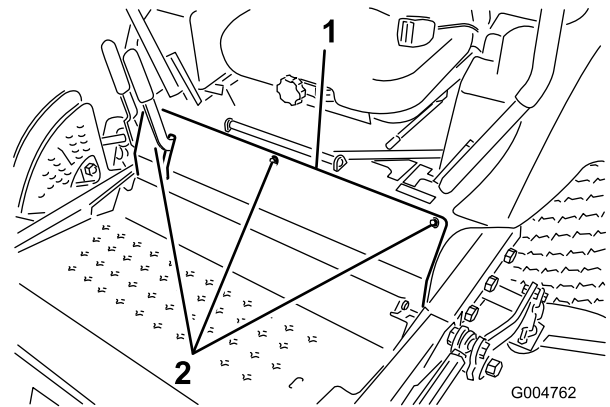

Figure 61
3. Remove the bolts securing the front panel and remove the panel (Figure 61).